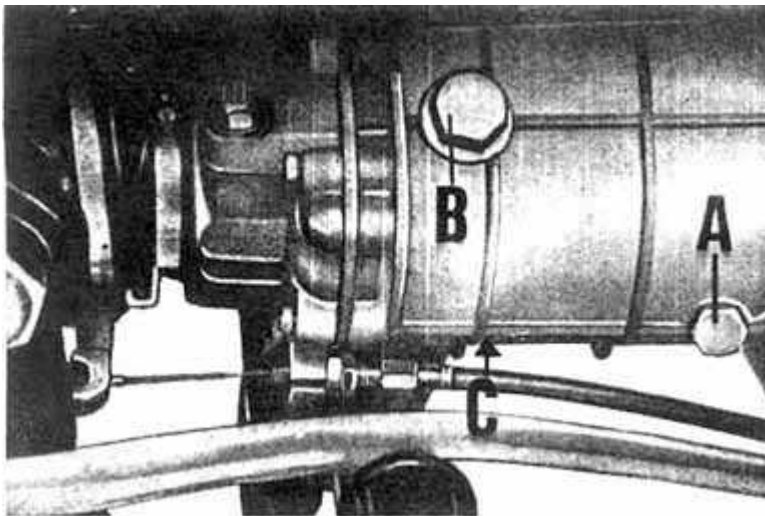

Fig. 13
**Lubrication of transmission** (See fig. 13) [return to index]